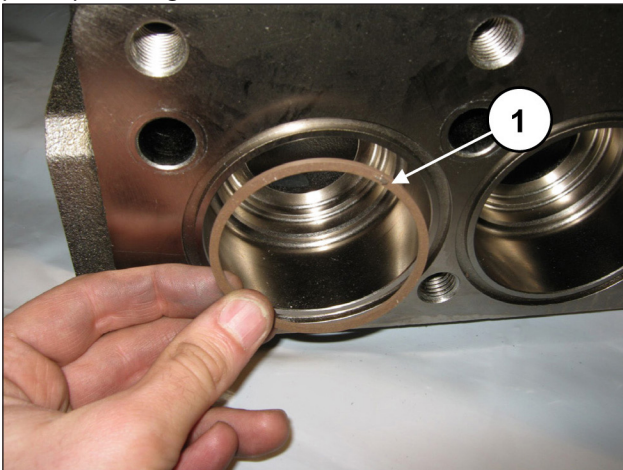

Fig. 147
During suction, insert the anti-extrusion ring, exploded view pos. 6 (pos. ①, Fig. 147).